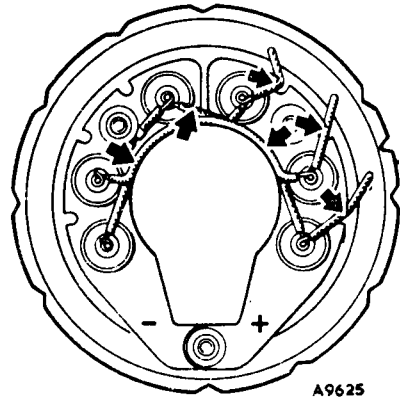

Fig. N.54
- (13) Remake the cable connections to the heat sink using 'M' grade 45—55 tin-lead. Take care not to overheat diodes or bend the pins. Secure the interconnections in the positions shown in Fig. N.54 using a high temperature resistant adhesive.
- (14) Check that the bearings do not allow excessive side-float of the armature shaft. If the needle bearing is faulty, the slip ring end bracket and